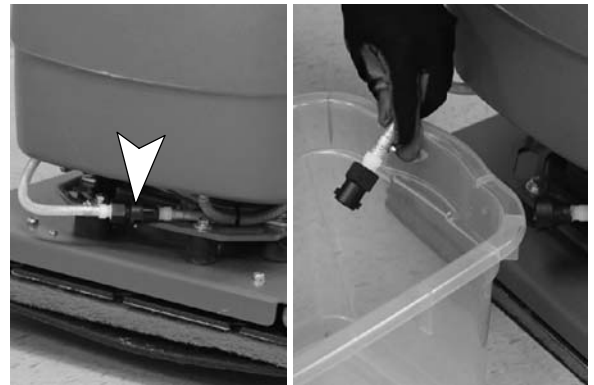

FIG. 48
3. Disconnect the black connector fitting at the scrub head and place the hose into a bucket (Figure 48).